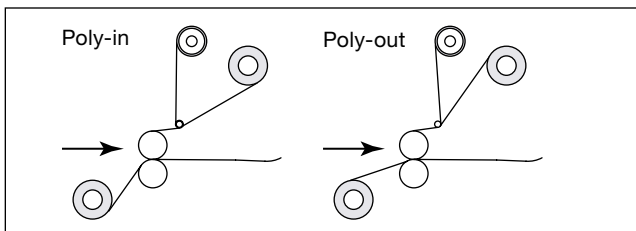

Fig. 6-14. Configurations for Poly-in and Poly-out Films.
This two pass operation requires pressure sensitive laminating film on the top supply shaft and pressure sensitive mounting film on the bottom supply shaft. Refer to “Fig. 6-14. Configurations for Poly-in and Poly-out Films.” for the proper configuration of Poly-in or Poly-out film.
- Refer to “Fig. 6-14. Configurations for Poly-in and Poly-out Films.” for the proper film configuration.